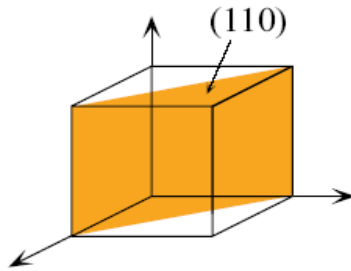

Figure 1. Unit cell.
15. For the unit cell shown in Figure 1,